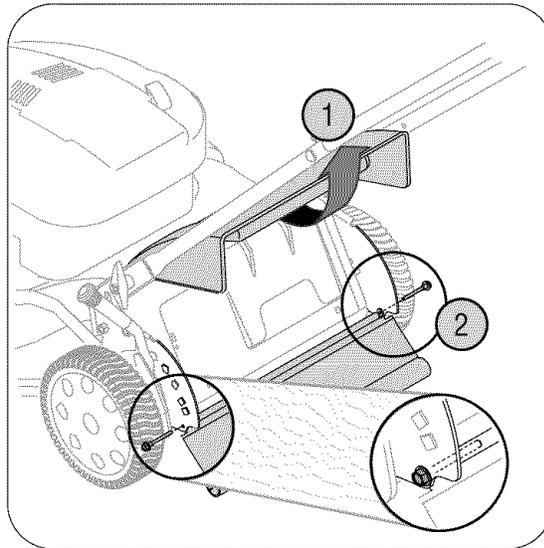

Figure 12
2. Remove two self-tapping screws which secure rear flap to the deck. See Figure 12.